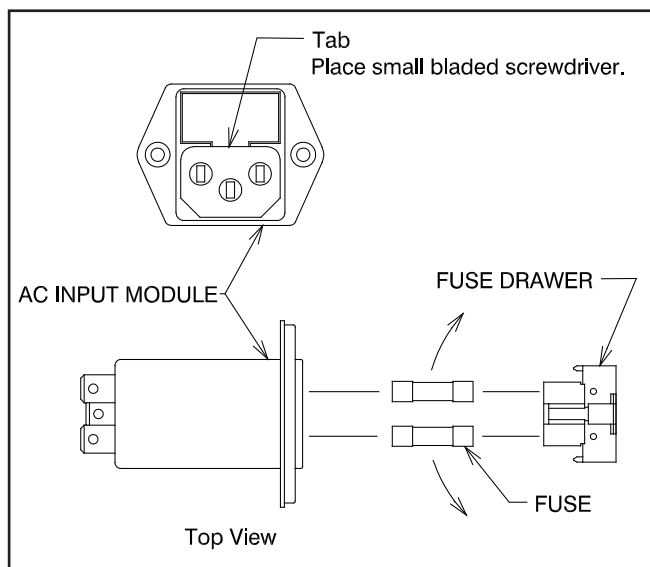

FIGURE 3
4.1.1 Unplug the power cord from the AC power Input Module. Referring to Figure 3, locate tab. With a tool similar to a small common screwdriver placed under tab, pry Fuse Drawer out. Remove the Fuse Drawer by pulling it out with your fingers.
4.1.2 To remove fuses from Fuse Drawer, tilt fuses in direction of arrows as shown in Figure 3. Examine the fuses, replace as necessary.